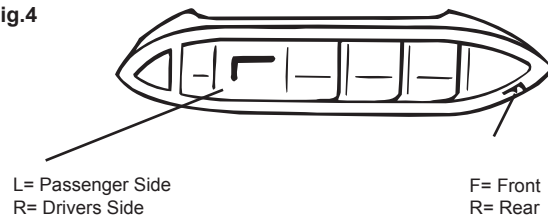

Fig.5
- 6 Sit the Cross Bar assemblies onto the Rubber Pads. Loosely fit the Special Bolt through the end support and into the locking strap. Give two to three turns of the Special Bolt in the Locking Strap with the Security Key provided. Go to the other side of the vehicle and pull on the End support and fit the same. This will allow correct alignment of locking strap and Special bolt thread (Fig 5).